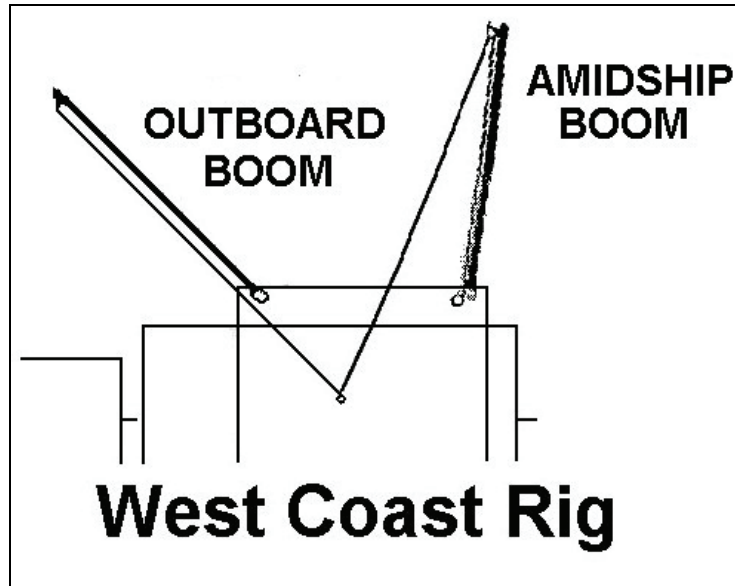

Figure 3-31. West Coast Rig Standard Cargo Rig
2. Rig a west coast rig (see Figure 3-31).